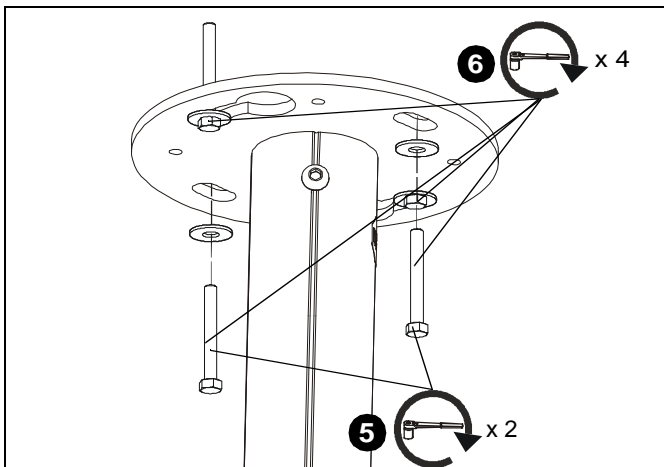

Figure 5
- Install two 5/16" x 2-3/4" (minimum) lag screws (not included) through holes on ceiling plate (A) and into holes drilled in wood stud cross bracing. (See Figure 5)
- Tighten all four lag screws to secure plate to ceiling. (See Figure 5)